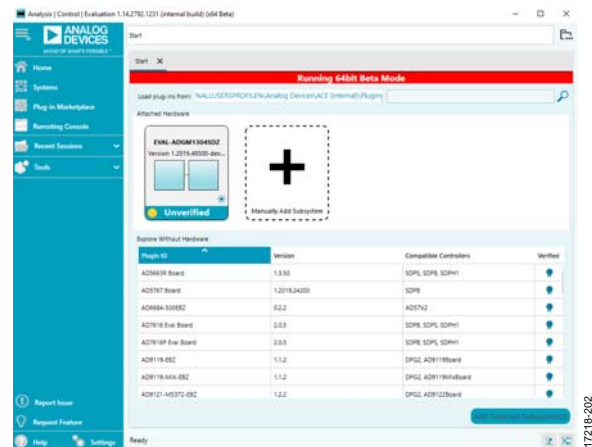

Figure 2 EVAL-ADGM1304SDZ Plug-In Startup Window
6. Run the ACE software. The EVAL-ADGM1304SDZ board plug-ins appear in the attached hardware section of the Start tab (see Figure 2)